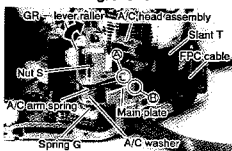

Fig. 3-9-2
- ③ Place the A/C arm spring and GR-lever to the A/C plate shaft. For mounting status of the A/C arm spring, see Fig. 3-9-2.
- ④ Attach the A/C head assembly to the shaft of the capstan motor stator. To do so, move the GR-lever roller in the direction of arrow in Fig. 3-9-2. Orient the assembly so that the GR-lever tip ④ is inside the main plate and the A/C head phase adjuster screw ⑤ of the A/C plate is outside the main plate.
- ⑤ Tighten the nut S (temporary).
- ⑥ Install the master plane (see para. 3).
- ⑦ Place the height adjusting square on the master plane.
- ⑧ Adjust nut S so that the center of the distance between measuring faces ⑥ and ⑦ of the square is at the same level as the edge of the lower flange of GR-lever roller. This is a critical adjustment since the distance between the ⑥ and ⑦ faces is small.